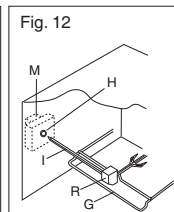

Fig. 12
- Put the support G completely into the oven so that the bar I goes into the socket H of the turnspit motor M (fig 12).